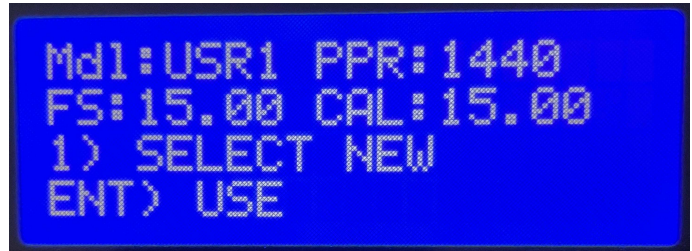

Figure 6. Select User Defined Transducer
- From the Cal Menu press 1 to select Calibrate. The 922 will briefly display “checking for Smartducer ... NONE” and then display the basic info about the most recently used of the transducers stored on-board as shown in Figure 6 below.